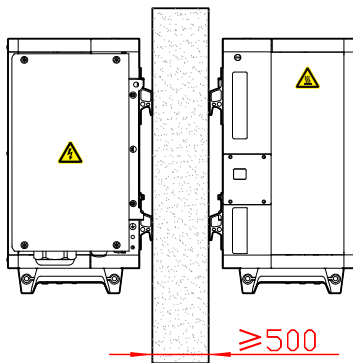

Figure3-6 Back-to-back installation clearance requirements (unit: mm)
- When the inverters are installed back to back, a certain clearance must be reserved between the inverters, as shown in Figure3-6.